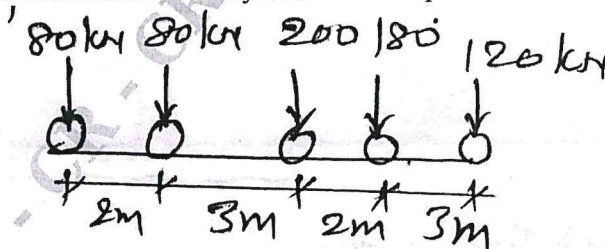

Fig Q10
- 10 A train of 5 wheel loads as shown in Fig Q10 crosses a simply supported beam of span 24m from left to right. Calculate the maximum positive and negative SF values at the centre of span and the absolute maximum B.M anywhere in the span.